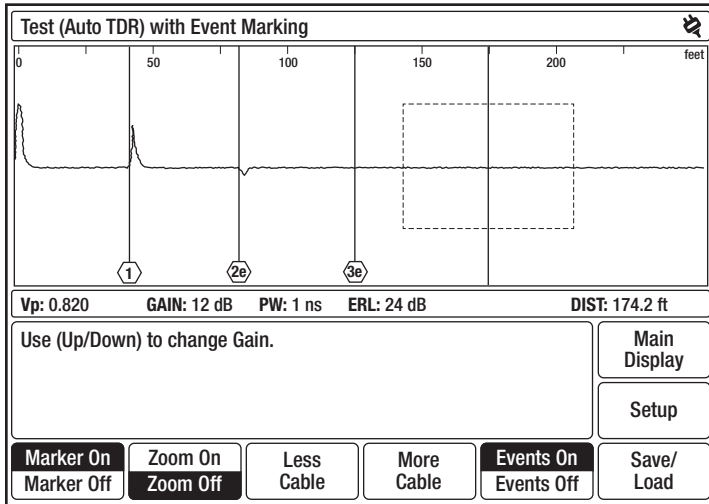

Figure 4-8: Test Waveform (Auto TDR) with Event Marking
- **Events On/Off** turns the Auto Event Locator on and off. Auto Event Locator enables the TV220 to automatically detect and mark events. The Auto Event Locator Threshold determines the severity of the events that are located, marked, and displayed. To select the desired event threshold, go to the **Setup – More Settings** menu (Figure 3-8). **Events On** marks events with a vertical line and hexagonal event numbers. Events that are possible echoes are marked with an 'e' after the event number. Figure 4-8 illustrates a waveform with event marking.